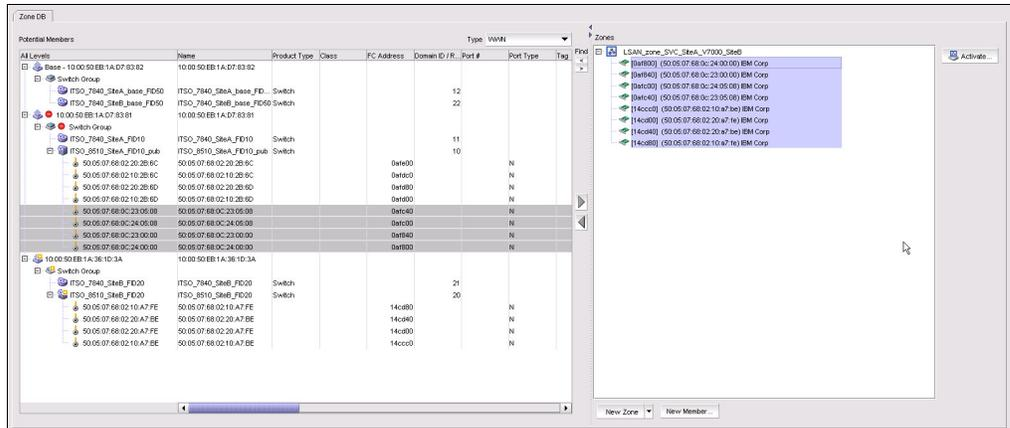

Figure 6-52 Create a LSAN zone
- b. Click the right arrow between the **Potential Members** list and the **Zones** list to add them to the zone (Figure 6-52).